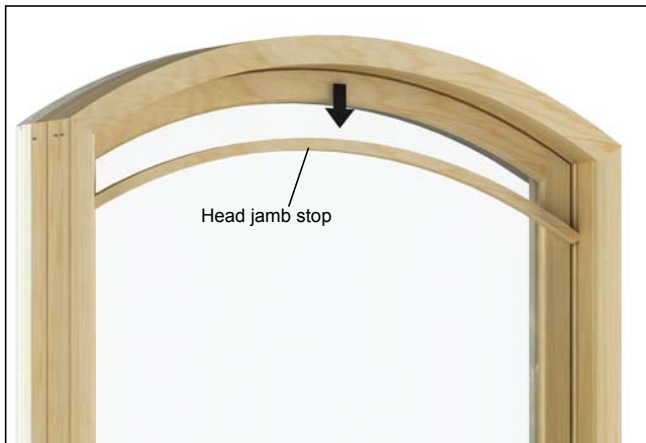

Figure 5
4. Remove head jamb stop. See figure 5.